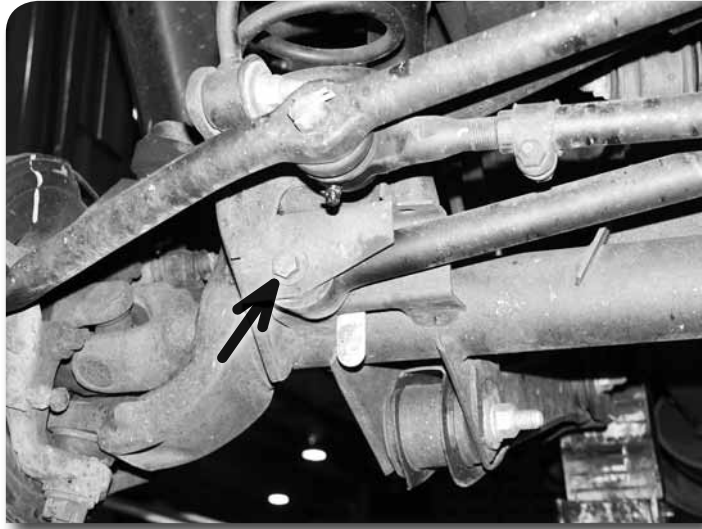

Figure 1
1. Remove the bolt mounting the front track bar to the passenger's side of the axle **Figure 1**. Save track bar bolt and nut tab. Allow the track bar to hang free.